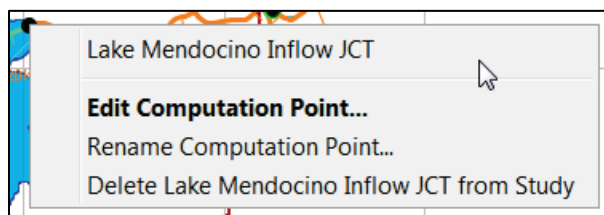

**Figure H.5** Name new Computation Point Dialog Box at a Stream Junction
5. From the **Select the Placement of the Computation Point** list (Figure H.5), determine exactly where the CCP will be placed. The user must decide to have the CCP placed on the stream junction; along one of the streams that form the stream junction; or, none of the above. For example, in Figure H.5, the CCP will be placed on the stream junction.
6. Click **OK**, the **Name New Computation Point** dialog box (Figure H.5) will close. The CCP will now appear in the display area as a black circle.